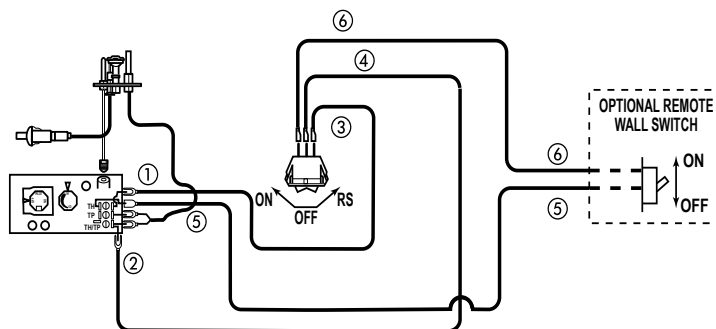

Figure 31 - Wiring Diagram for Wall Switch
A remote wall switch and up to fifteen (15) feet of 18 Ga. wire may be used with this appliance. Attach the wall switch in a junction box at the desired location on the wall. *Figure 31*. Do not extend beyond the wall switch wire length provided.